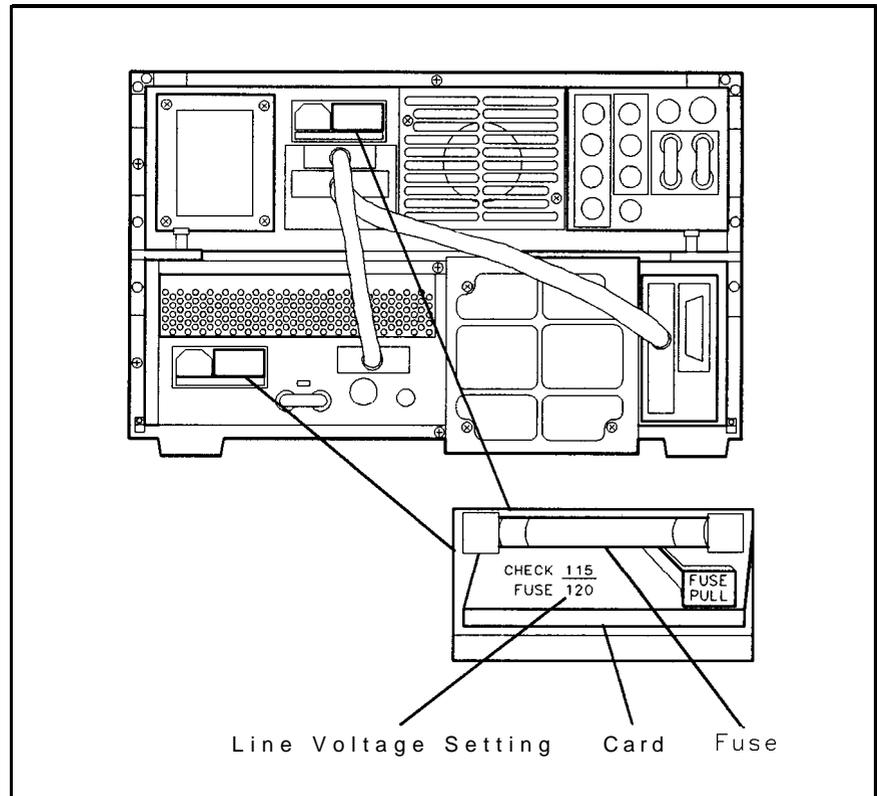

Figure 2-6. Voltage Selector Board and Fuse
6. On each instrument section, slide open the power module's fuse door (located on the rear panel). See Figure 2-6. Push the fuse-pull lever to the left. Remove the fuse.
Although Figure 2-6 shows the two instrument sections connected together, they will be mounted separately in the rack.
7. On each power-line module, check the voltage selector card for the proper ac line voltage. The card's voltage setting should be visible on the card. See Figure 2-6. If you need to select a different ac line voltage setting, perform the following: